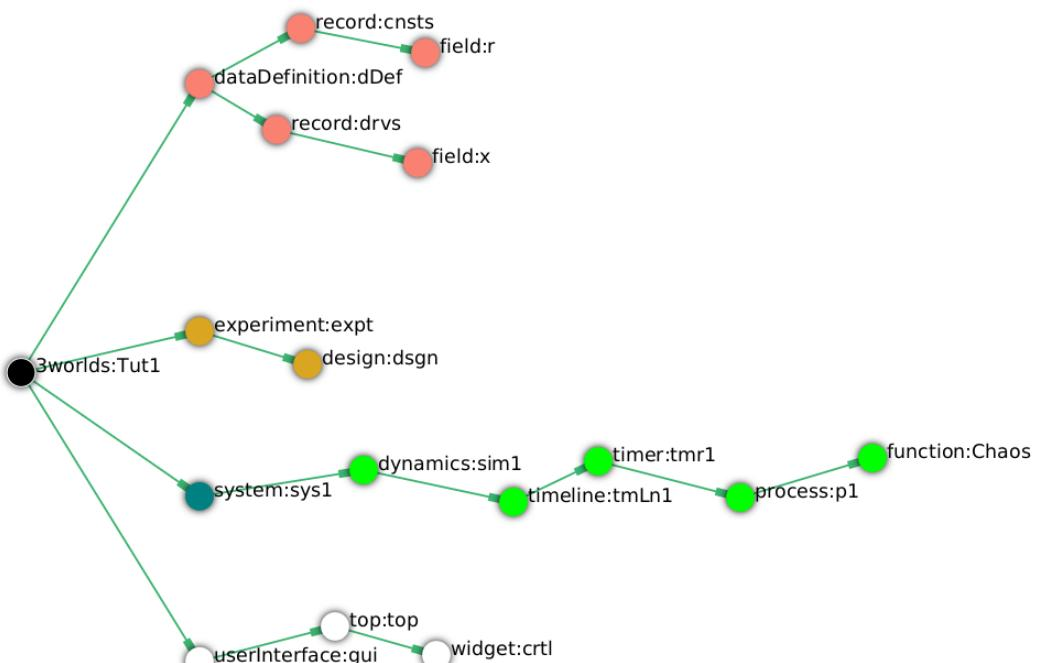

Figure 31. A view of the specification graph showing principal nodes of interest.
3. Re-apply the layout (L) (Figure 31).